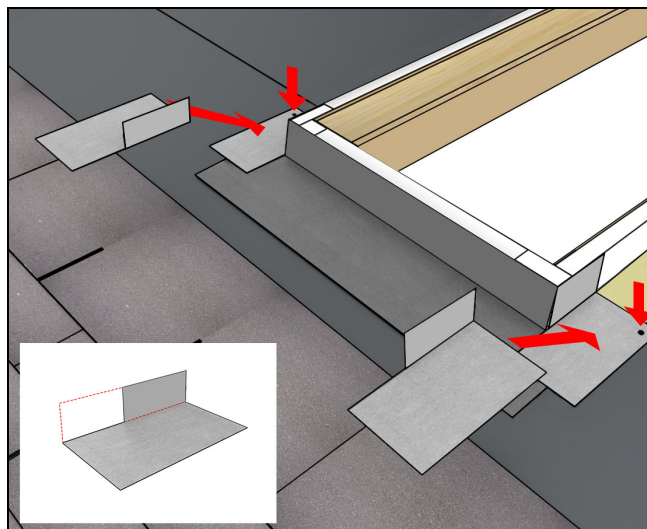

Figure 36
**8.** First step flashing placed a minimum of 4" beyond the sill of unit. Note: remove material of vertical leg that extends beyond sill saddle. See Figure 36.